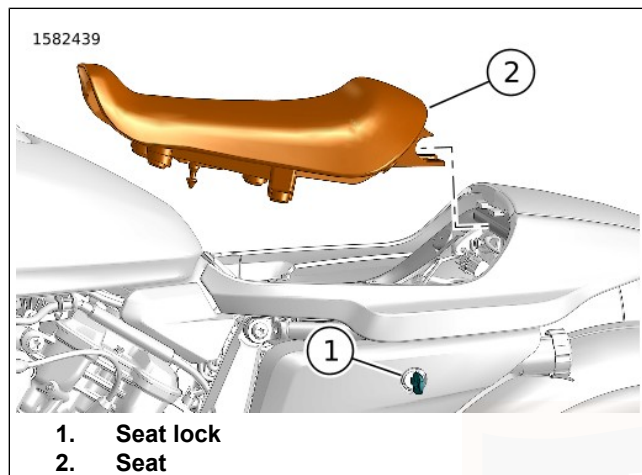

Figure 70. Seat
1. See Figure 70. Insert key in seat lock (1).
3. Lift up front of seat (2) and move forward to remove.
1. See Figure 70. Lower rear of seat (2) into position.